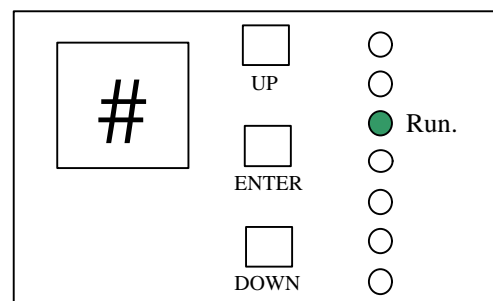

Figure 11
- To resume the program, press the DOWN key until the RUN lamp is illuminated. Press ENTER to resume the session (Figure 11).